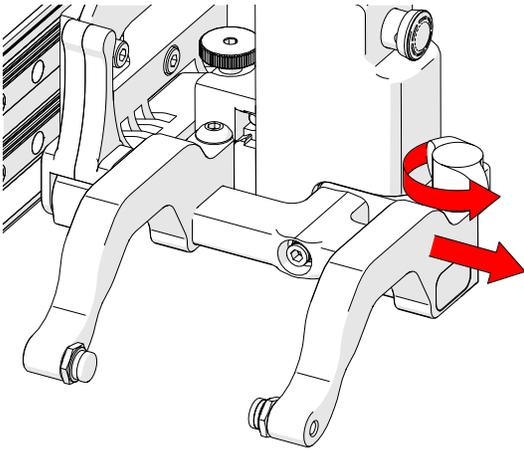

Fig. 46 - Remove outer arm
3. Loosen the probe holder adjustment knob and remove the outer probe holder arm (Fig. 46).
5. Place the wedge on the pivot button of the inner probe holder arm (Fig. 46).